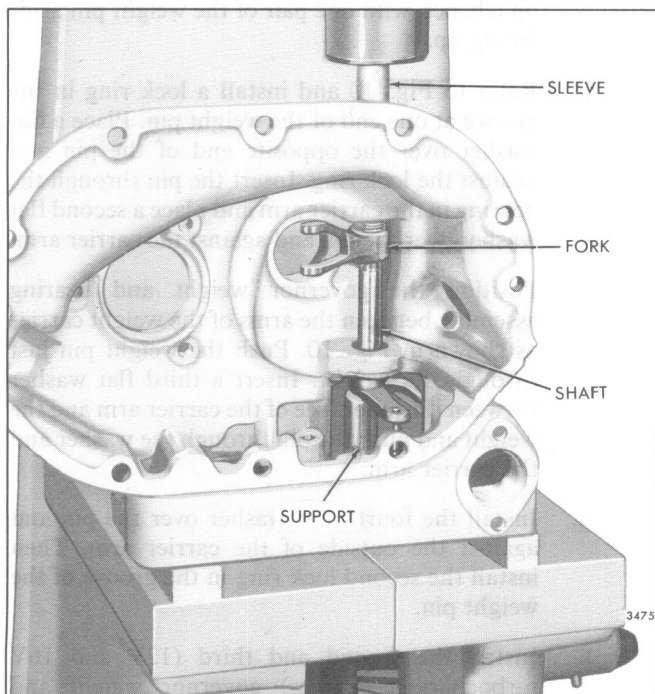

Fig. 18 – Installing Governor Operating Shaft Fork on Shaft
- f. Support the governor housing and operating shaft assembly on the bed of an arbor press with the upper end of the operating shaft resting on a steel support as shown in Fig. 18. Place a 7/16" inside diameter sleeve over the end of the shaft and against the fork. Then press the fork tight against the shaft spacer on the shaft.
- h. Support the governor housing and operating shaft assembly on the bed of an arbor press with the upper end of the operating shaft resting on a steel support as shown in Fig. 18. Place a 7/16" inside diameter sleeve on the inner race of the bearing and press the bearing on the shaft until it seats on the shoulder in the housing.